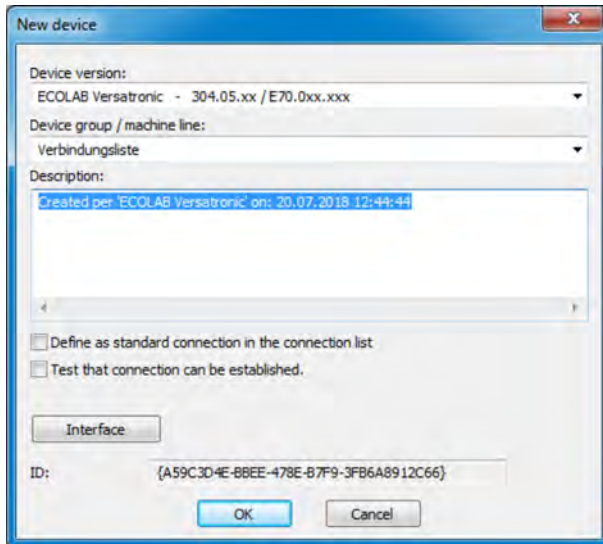

Fig. 114: New device
1. Make settings for the new device and click "interface" (see Fig. 114).